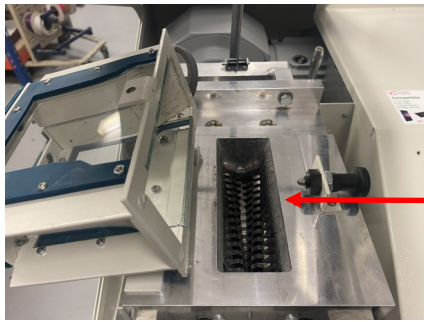

Figure 24
3. Fully open the media chute assembly. By pulling out the pull pin shown in figure 24. Open position shown in figure 25.